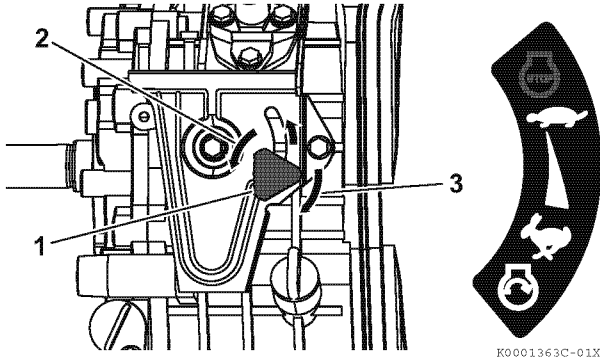

Figure 17
3. If your engine speed control is similar to **Figure 17**:
- 1- Turn the engine speed control knob (1, **Figure 17**) to the left (2, **Figure 17**).
- 3- Turn the engine speed control knob to the right (3, **Figure 17**) to tighten it.